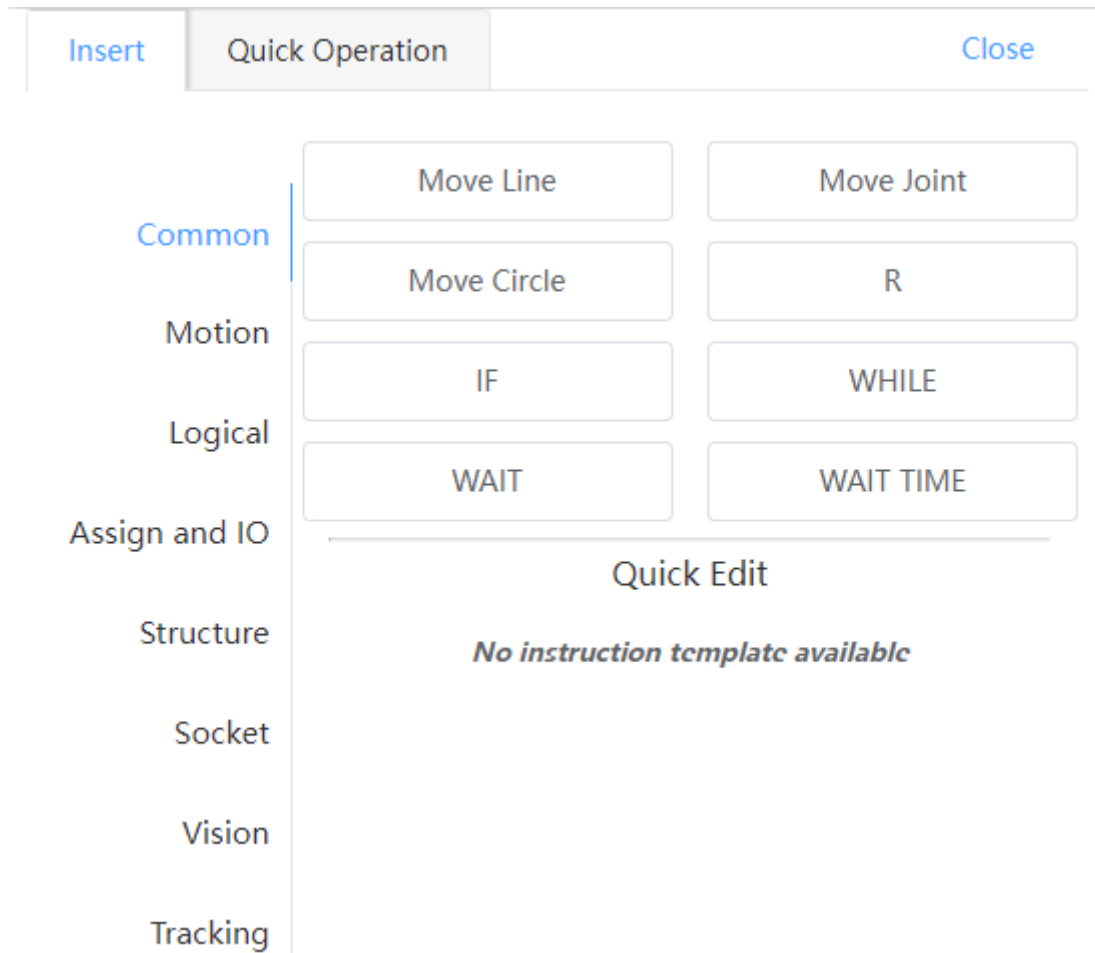

Fig. 4.13 Instruction Selection Window
- Click on "Insert Instruction" in the program operation interface to enter the instruction selection interface, as shown in Fig. 4.13 → select the desired motion instruction (e.g. Move Line) to enter the motion instruction editing interface.